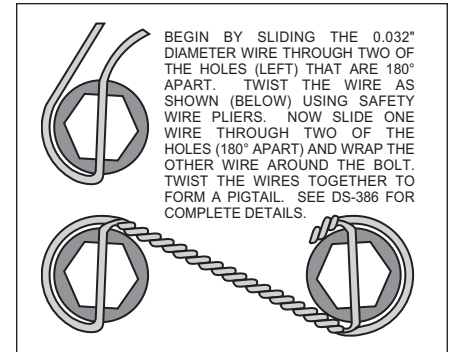

Figure 3. Safety Wire Diagram
- With the larger I.D. side of the rotor (6) facing away from the hat (7), bolt rotor (6) to hat (7) through the backside of the rotor using washers (8) and bolts (9). Torque bolts (9) in an alternating sequence to 120-144 **in-lb**. Safety wire bolts (9) using standard 0.032 inch diameter stainless steel safety wire as shown in Figure 3. Please refer to Wilwood's data sheet DS-386 (available at www.wilwood.com/pdf/ds386.pdf) for complete safety wire installation instructions. Slide the rotor/hat assembly onto the spindle. Install a couple of lug nuts (finger tighten) to keep the rotor/hat assembly in place while continuing with the installation.
- NOTE:** Please reference the caution statement at the beginning of the assembly instructions. Install one shim (13) over each pre-installed stud (14) on the radial mount bracket (1). Slide the caliper (10) in place over the studs and rotors and install the washer (12) and lock nut (11) to hold the caliper in place. The caliper bleed screws should be pointing up. Snug the lock nuts (11). View the rotor (6) through the top opening of the caliper (10). The rotor (6) should be aligned in the center of the caliper (10). If not, adjust the caliper (10) by using .030" shim washers (5) placed between the bracket (1) and the spindle to center the caliper (10). Add as many shim washers (5) as necessary to achieve the correct alignment. Always use the same amount of shims (5) on both the top and bottom caliper mounting bolts (2).
- Remove the caliper quick-clip pad retainer from the caliper (10). Slide the brake pads (15) into place. They should install easily without interference. Check that the outside radius of the brake pad is aligned with the outside diameter radius of the rotor face. Add or subtract shims (13) between the caliper and mount bracket to gain the proper alignment. Reinstall the quick-clip pad retainer.
- Once all clearances have been checked, remove the wheel, caliper, hat, and rotor from the spindle and hub. Secure the caliper mounting bracket (1) to the spindle using red *Loctite*® 271. Torque the bolts to 47 ft-lbs. Reinstall the hat and rotor assembly and again use several lug nuts to hold it in place. Lubricate caliper mounting studs and nuts with lightweight oil, reinstall the caliper, torque the caliper nuts (11) to 30-35 ft-lb.